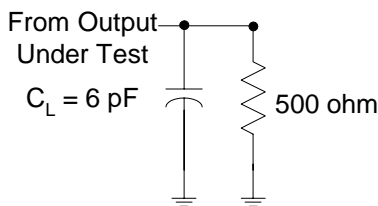

Figure 6. Load Circuit [3,4,5]
**DC Electrical Characteristics @ 1.8V (see Figure 6)**